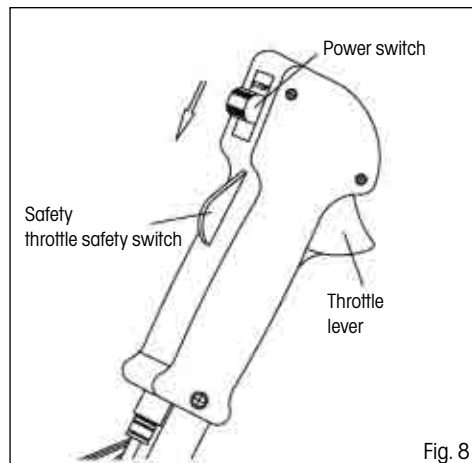

Fig. 8
1. Set the power switch to the "START" position. (see fig. 8)
- To increase speed, first use the palm of your hand to push down the throttle safety switch and then use your finger to pull on the throttle trigger (see fig. 8)